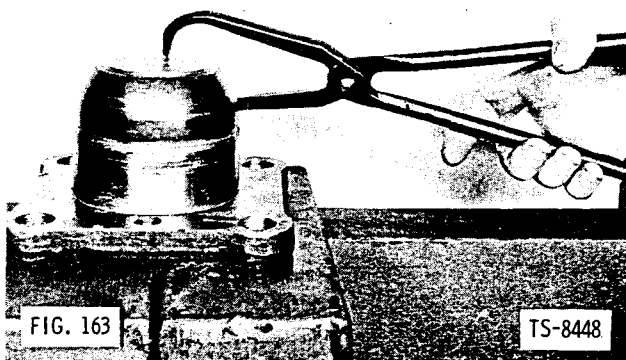

FIG. 163
5. If bearing cups were replaced, bearing cones must also be replaced. Heat bearing cones in oven to 300° F. Remove cones from oven and quickly position on steering trunnions. Heated cones should seat easily on trunnions (Fig. 163).